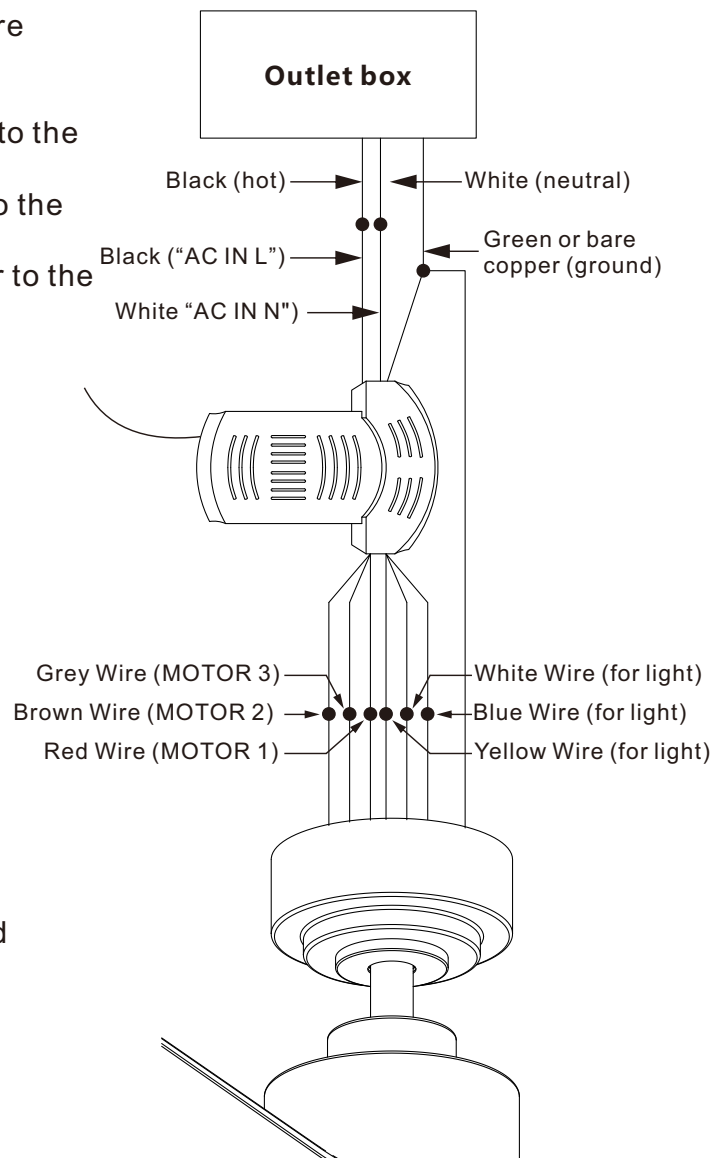

Figure 16
Motor to Receiver Electrical Connections:(Fig.16)
Step 2. (Fig.16) **Receiver to House Supply Wires Electrical Connections:** Connect the Black (hot) wire from the ceiling to the black wire marked "AC in L" from the receiver.
Step 3. (Fig.16) If your outlet box has a ground wire (green or bare copper) connect it to the fan ground wires and the receiver ground wire; otherwise connect the hanging bracket ground wire to the fan and the receiver ground wire. Secure the wire connection with a plastic nut provided. After connecting the wires, spread them apart so that the green and white wires are on one side of the outlet box and other wires are on the other side. Carefully tuck the wire connections up into the outlet box.